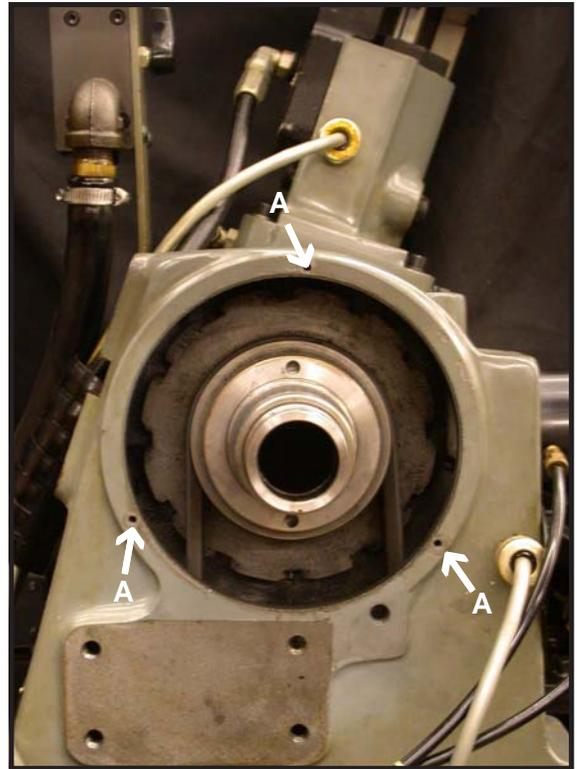

Figure 3.8.2
Remove (6) S.H.C. screws (3.8.1 -F) from the middle feedback housing. Remove feedback unit belt. Remove (3) S.H.C. screws to remove housing. Remove (3) S.H.C. screws (Figure 3.8.2 - A) to remove cover plate. Remove old belts and feed new belts down through. Align belts on spindle pulley and motor pulley. Tighten belts to proper tension. Reverse the above procedures to reassemble.